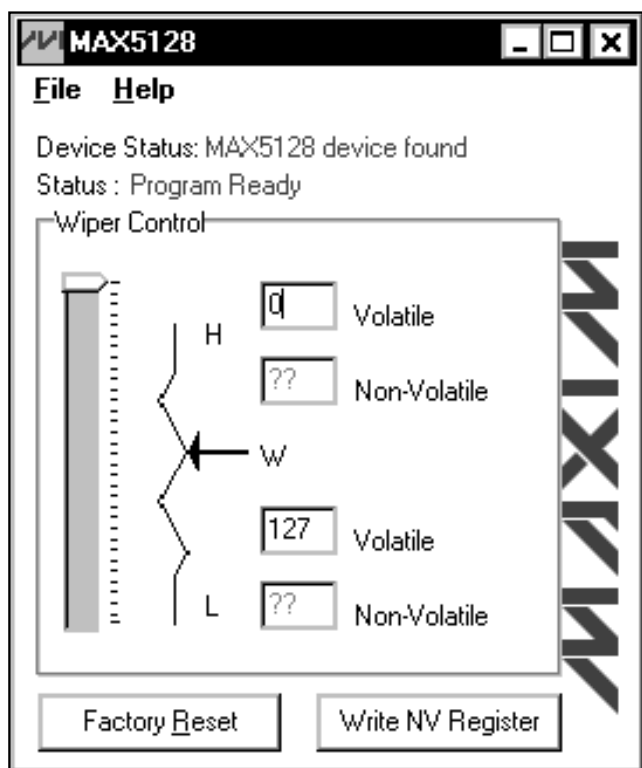

Figure 1. MAX5128 EV Kit Software Main Window
- 9) Start the EV kit software by opening its icon in the **Start | Programs** menu. The EV kit software main window appears, as shown in Figure 1.
Each button of the GUI (Figure 1) corresponds to a command used to set the wiper position or to program the device.